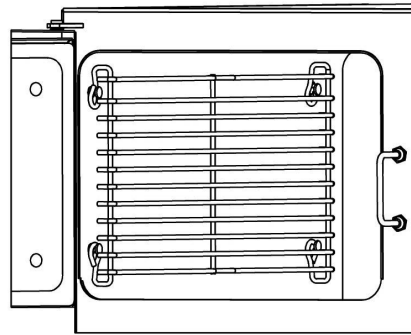

Figure 3-3
- See Figure 3-3. Each rack has four loops; two top, and two bottom.